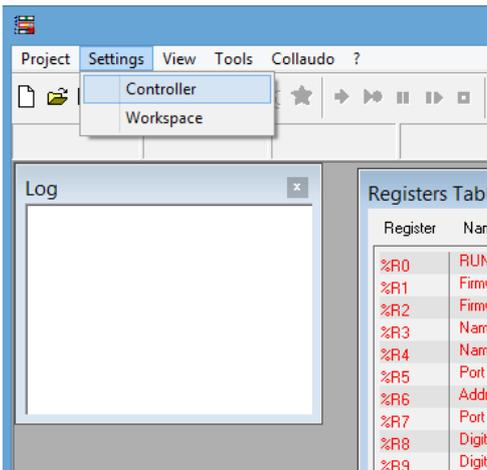

Fig 2.1: Settings → Controller
- Click on Settings-> Controller from toolbar; (Fig. 2.1)